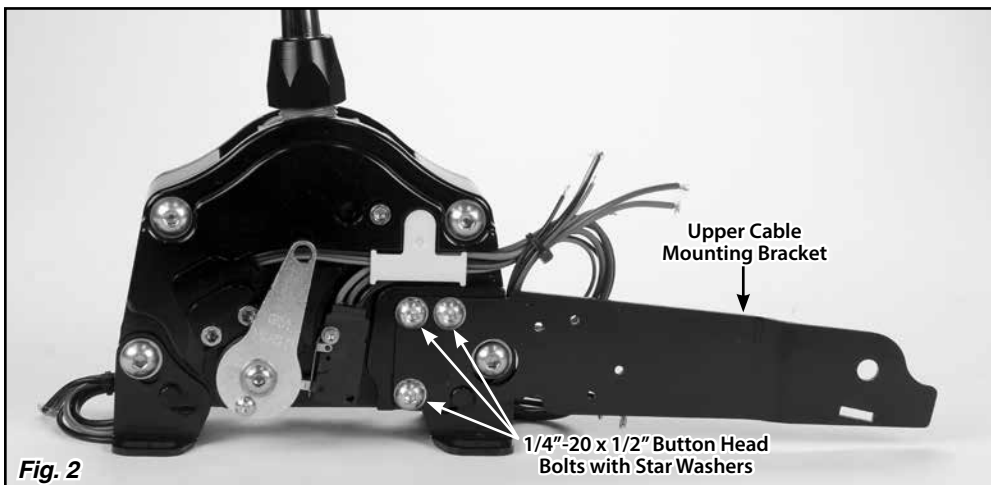

Fig. 2
Step 7: Install the upper cable mounting bracket onto the shifter using a 5/32" Allen wrench and three 1/4"-20 x 1/2" button head bolts with internal tooth lock washers. **Fig. 2**